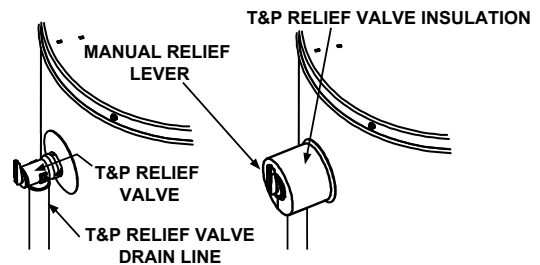

FIGURE 5.
1. Locate the temperature and pressure relief valve on the water heater (also known as a T&P relief valve). See Figure 5.
3. Spread the slit open and fit the insulation over the T&P relief valve. See Figure 5. Apply gentle pressure to the insulation to ensure that it is fully seated on the T&P Relief Valve. Once seated, secure the insulation with duct tape, electrical tape, or equivalent. **IMPORTANT:** The insulation and tape must not block the discharge opening or hinder access to the manual relief lever (Figure 5). Ensure a discharge pipe is installed into the T&P valve discharge opening per the instructions in this manual.